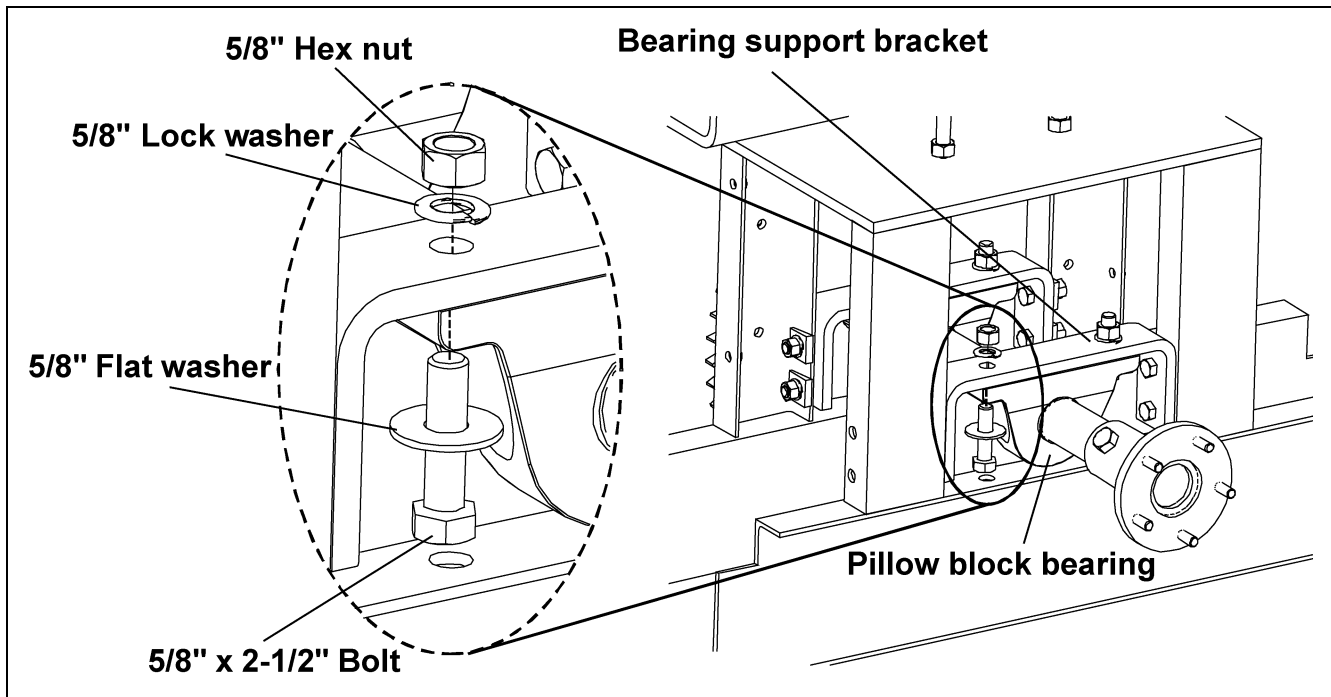

Figure 5T
- F. Attach pillow block bearings to the bearing support brackets using 5/8" x 2-1/2" bolts, 5/8" lock and flat washers, and 5/8" hex nuts. (See Figure 5T.)